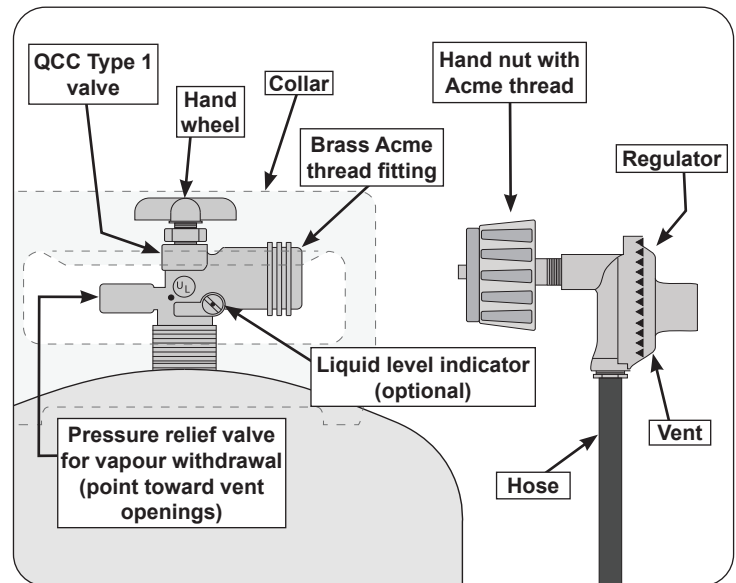

Fig. 7-1 Type I Acme thread coupler
- The cylinder used must include a collar to protect the cylinder valve. The cylinder supply system must be arranged for vapour withdrawal. See Fig. 7-1.
- When used with a cylinder, the gas supply system must be used with a pressure regulator. The pressure regulator and hose assembly (Fig. 7-1) supplied with this outdoor gas appliance (**L.P. models only**) must be used. Original and replacement pressure regulator and hose assemblies must be those specified by the manufacturer for connection with a cylinder connecting device identified as Type I by the ANSI Z 21.58/CGA 1.6 and must comply with UL 144 as a part of the self-contained LP gas supply system (see PARTS LIST for ordering information).
To disconnect: Turn the hand nut counterclockwise until detached (Fig. 7-1).